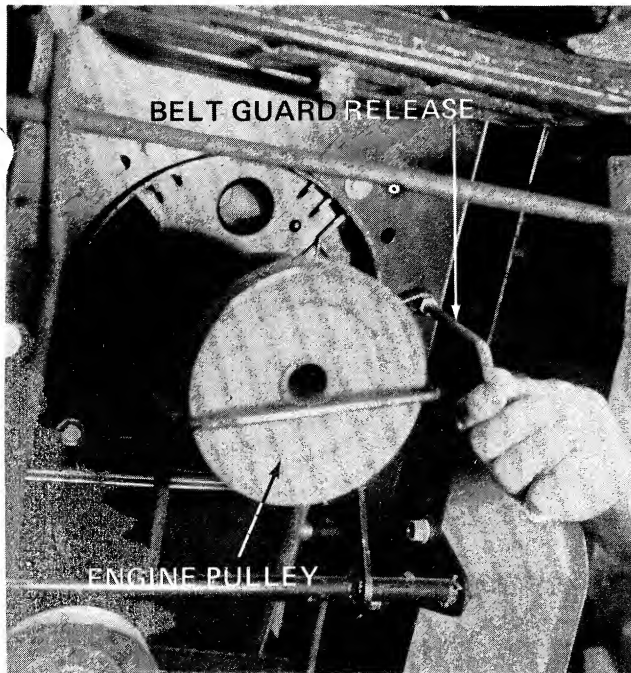

FIGURE 19
3. Unscrew the belt guard release next to the engine pulley. See figure 19.